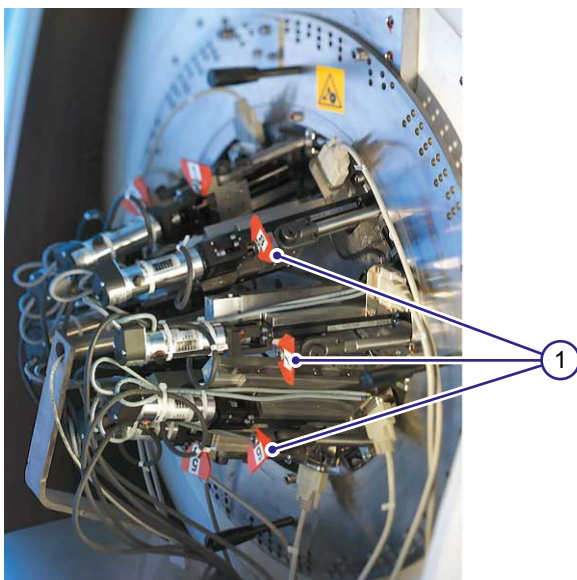

Figure 5.98 Sector Drive Unit
At the rear of the radiation unit, the sector drive mechanics can be found. Each sector has a red handle (1) (see Figure 5.98) which can be used to pull the sector outwards to the end position (sector home position).